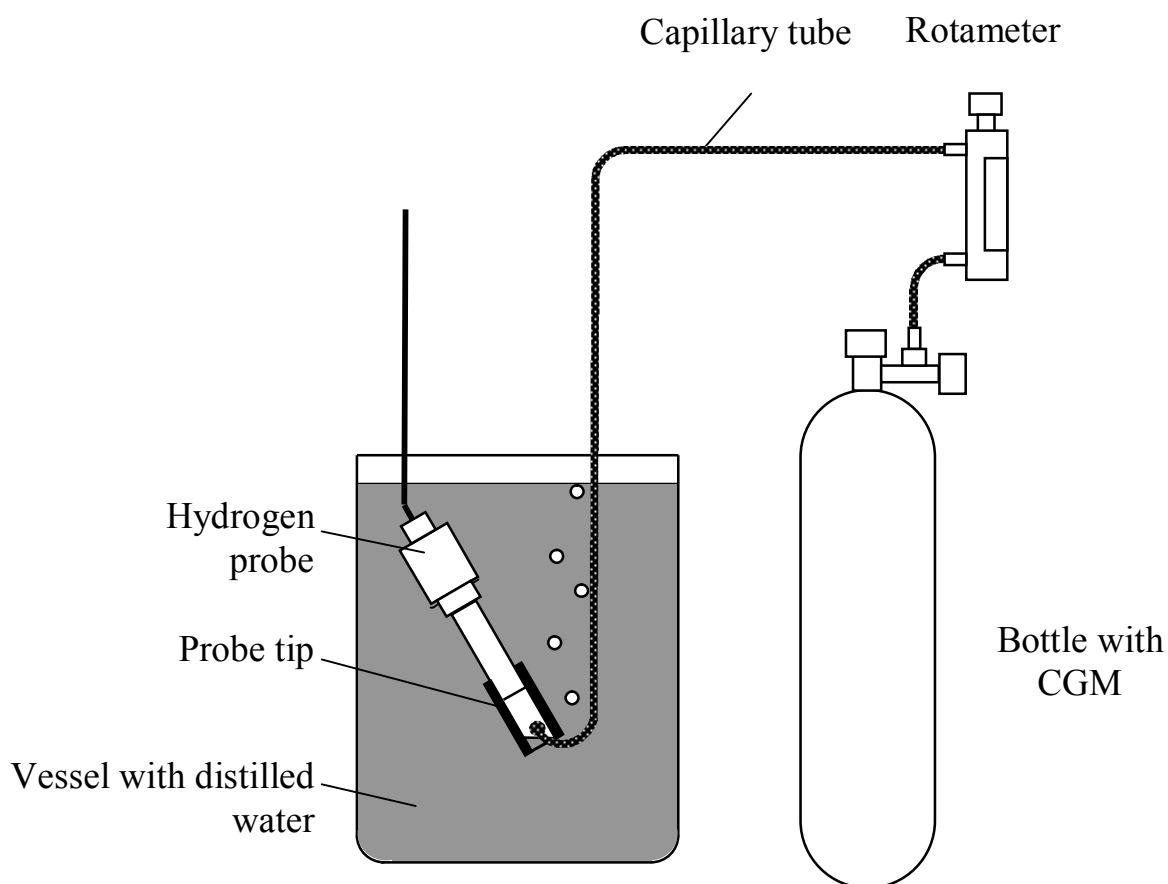

Fig. 2.10 – Analyzer calibration against GSO CGM
2.3.5.1 For GSO CGM calibration assemble the plant in compliance with Fig. 2.10.